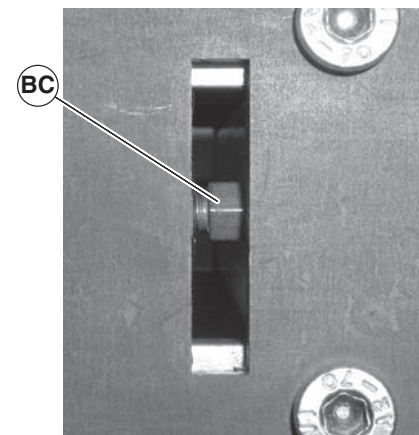

**Figure 37**
2. On the side of conveyor to be adjusted, loosen two (2) tail clamp screws (Figure 37, item U).